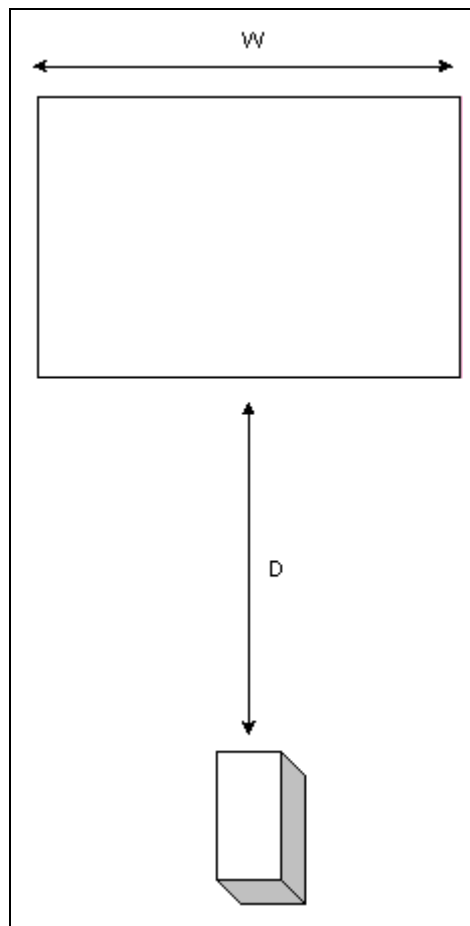

Figure 7: Throw Ratio D/W
13. Determine the approximate throw ratio value of the projector. The throw ratio is defined as the ratio of the distance from the center of the lens to the projector screen (D) divided by the width of the screen (W). Therefore, the throw ratio is $T = D/W$ (see Figure 7). For example, if the screen is 100 inches wide, and the distance to the screen is 150 inches, the throw ratio T is: $T = 150/100 = 1.5$